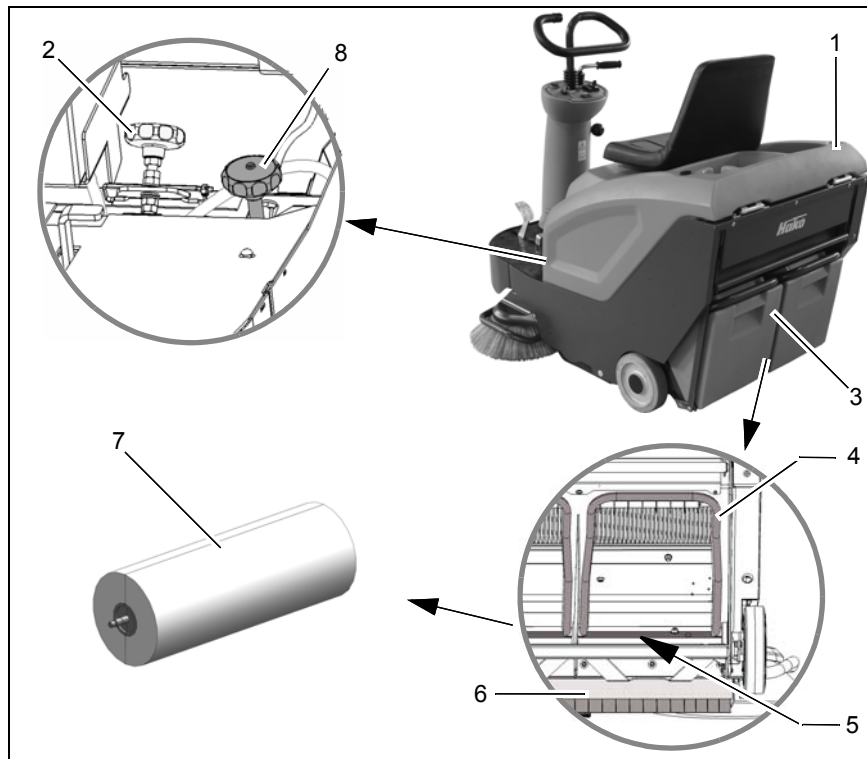

Fig.20
For the left-hand side broom (option), use the adjusting bolt (Fig. 20/8).
Check the broom space (Fig. 20/5) daily for soiling and clean it as necessary.
2. Remove the dirt hoppers (Fig. 20/3) and empty them.
3. Clean the broom space (Fig. 20/5) and check for signs of damage.
The sweeping pattern must be readjusted in the case of bristle wear and after changing the cylindrical broom (Fig. 20/7).
2. Open the seat console (Fig. 20/1) and secure with the safety support.
3. Turn the adjusting bolt (Fig. 20/2) until the cylindrical broom (Fig. 20/7) touches the ground.